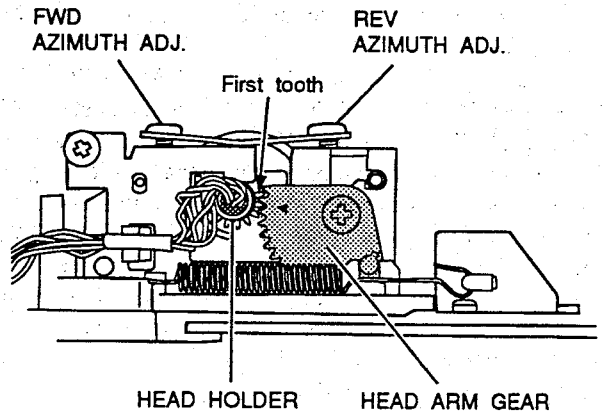

Fig. 3-11
If the removal of the HEAD HOLDER is necessary, align the first tooth of the HEAD HOLDER with the groove between the first and second tooth on the HEAD ARM GEAR when reassembling as shown in Fig. 3-11.
- 3) After adjustment, the AZIMUTH ADJ. screws must be paint-locked (refer to Fig. 3-11 on page 31).